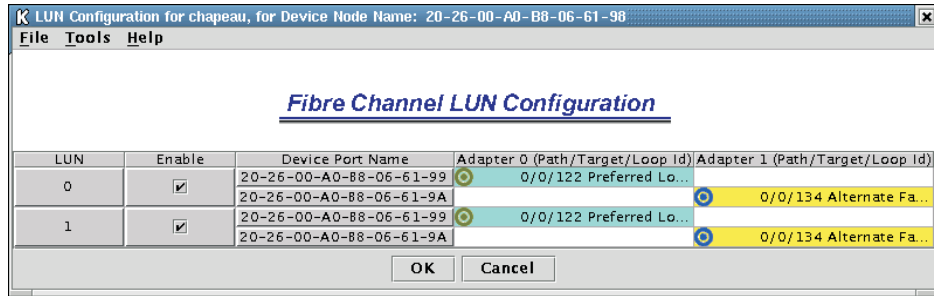

Figure 79. Fibre Channel LUN Configuration window
7. Click **Configure LUNs**. The LUN Configuration window opens (see Figure 79 on page 191).